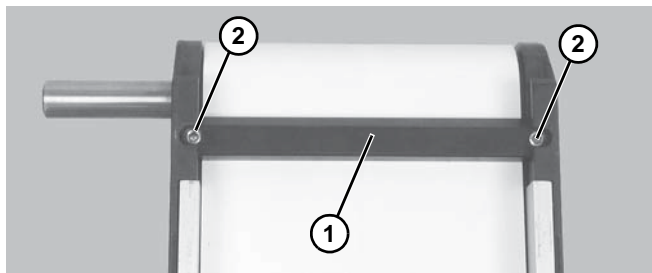

Figure 24
1. If equipped, remove bottom wipers (**Figure 24, item 1**): Remove fastening screws (**Figure 24, item 2**) then remove wiper.